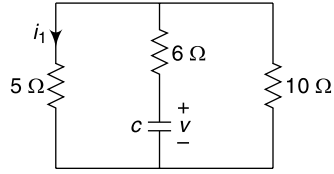

Fig. 14.74
14.83 Determine v and i_1 at $t = (0+)$ for the circuit shown in Fig. 14.74 if $v(0^-) = V_o$.